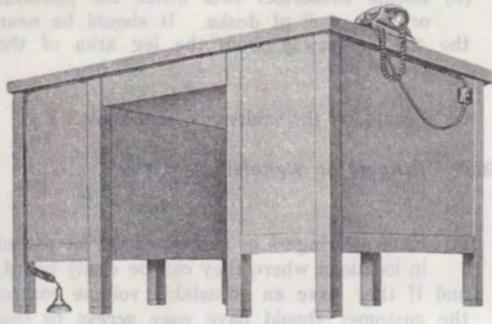

Fig. 5—Typical Station Installation on Desk Having No Wiring Facilities
- (a) A connecting block placed on a desk should be located high enough to hold the cord off the floor. A convenient mounting area is usually on the upper part of the outer panel (Fig. 5).